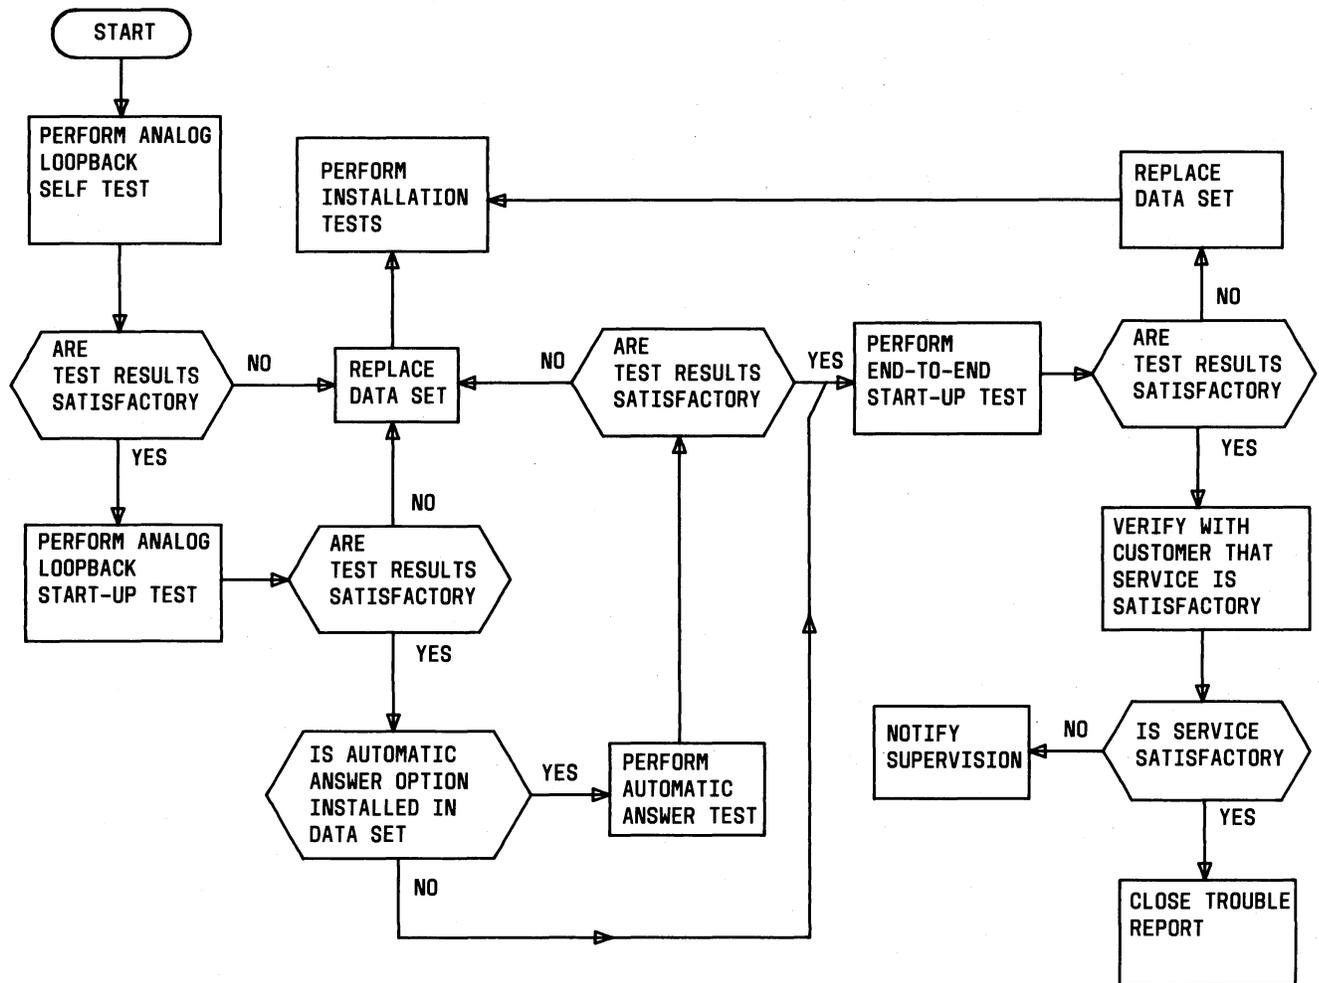

Fig. 4—Maintenance Test Sequence
**3.04** Refer to Fig. 4 for the sequence in which tests are to be performed by the telco employee at the data station. If the data set is